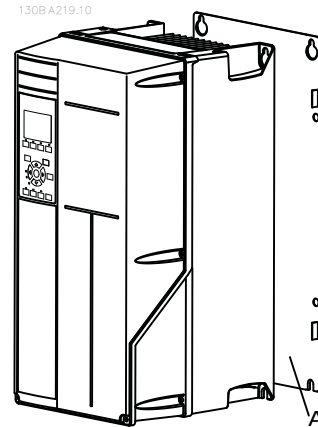
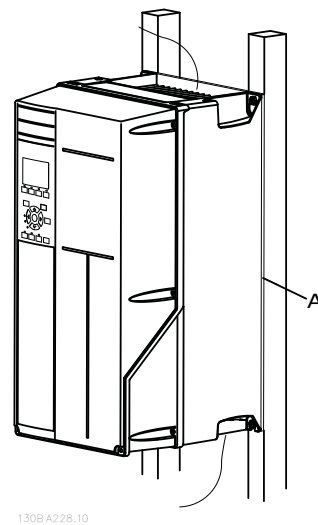

Figure 2.2 Proper Mounting with Backplate
Figure 2.3 Proper Mounting with Railings
- Mount the unit onto a solid flat surface or onto the optional backplate to provide cooling airflow (see Figure 2.2 and Figure 2.3).
Item A in Figure 2.2 and Figure 2.3 is a backplate properly installed for required airflow to cool the unit.